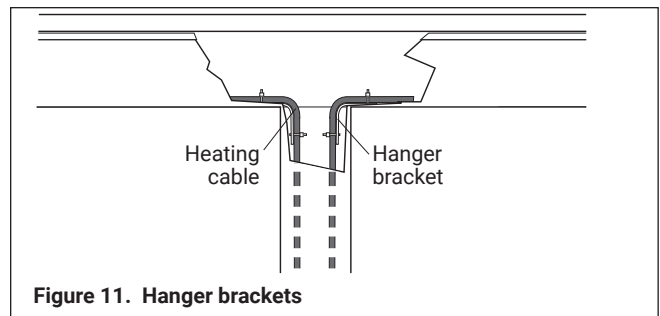

Figure 11. Hanger brackets
- Use H915 Hanger Brackets at the gutter/downspout transition to protect the heating cable from fraying and from damage from sharp edges and to provide strain relief as shown in Figure 11. Refer to the H915 kit instructions for installation details.